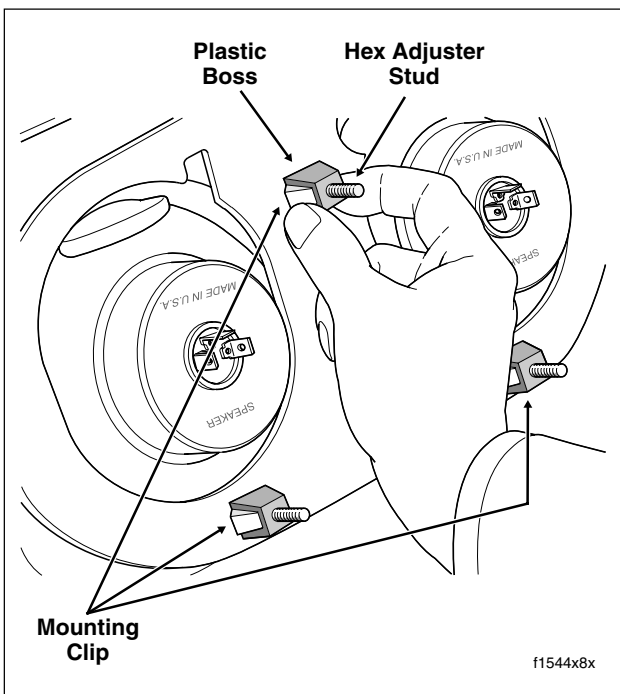

Figure 8-29. Depress Mounting Clips
5. Depress mounting clips on three hex adjuster studs and pull headlamp assembly out front of outer fairing. See Figure 8-29.